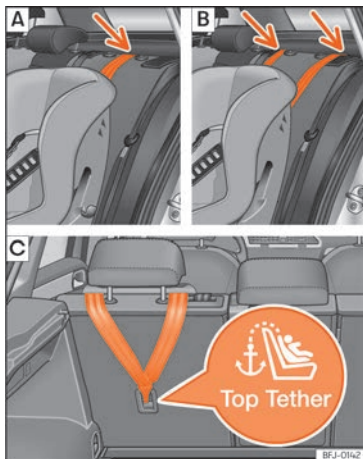
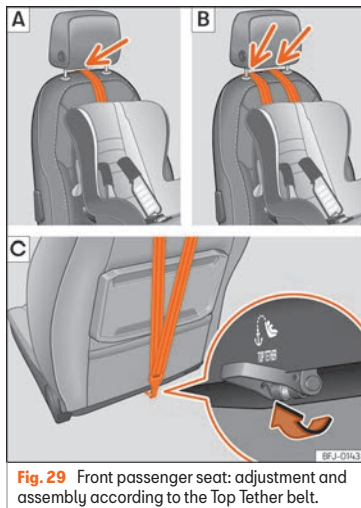

Fig. 28 Side seats of the second row: adjustment and assembly according to the Top Tether belt.
Fig. 29 Front passenger seat: adjustment and assembly according to the Top Tether belt.
hind the seat backrest or in the boot) »» Fig. 28. For the front passenger seat, the ring is below the backrest »» Fig. 29.
- Position the belt under the headrest (depending on the instructions of the seat itself, lift or remove the headrest if necessary) »» Fig. 28 [A/B], »» Fig. 29 [A/B].
- Slide the strap and secure it properly with the anchorage of the backrest »» Fig. 28 [C], »» Fig. 29 [C].